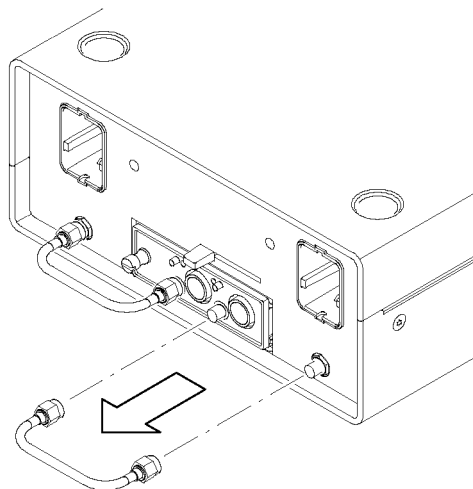

Figure 10: Removing the semi-rigid cable
1. Remove the semi-rigid cable that connects the CH B TekConnect Probe Interface Module to the sampling module. (See Figure 10.)